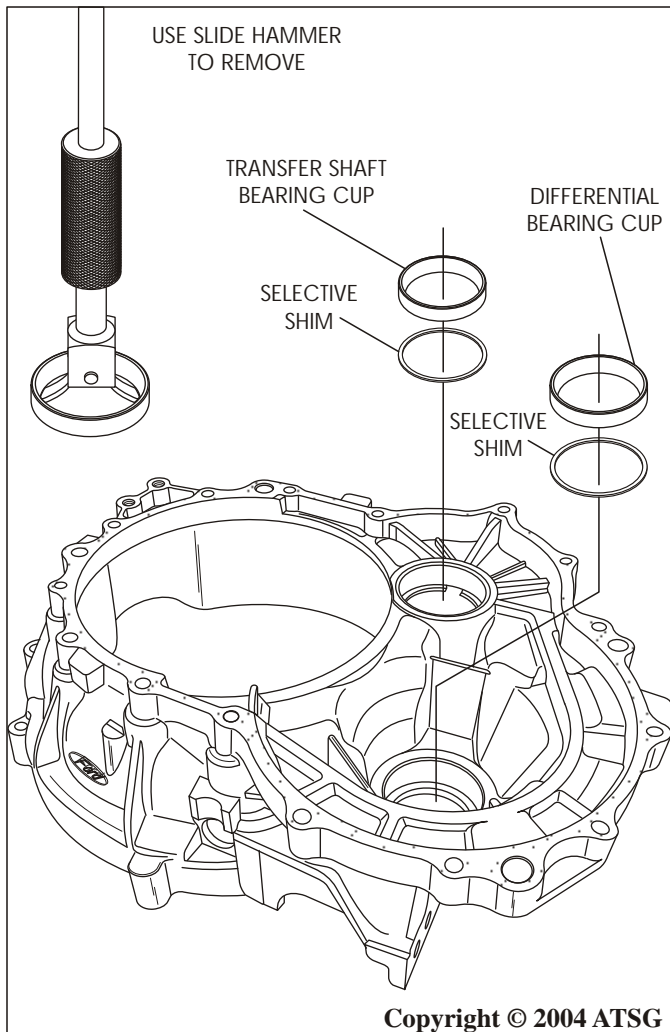

Figure 128
38. Remove the differential bearing cup using the slide hammer, as shown in Figure 128.
39. Remove the differential bearing cup selective shim, as shown in Figure 128.
40. Remove the transfer shaft bearing cup using the slide hammer, as shown in Figure 128.
41. Remove the transfer shaft bearing cup selective shim, as shown in Figure 128.